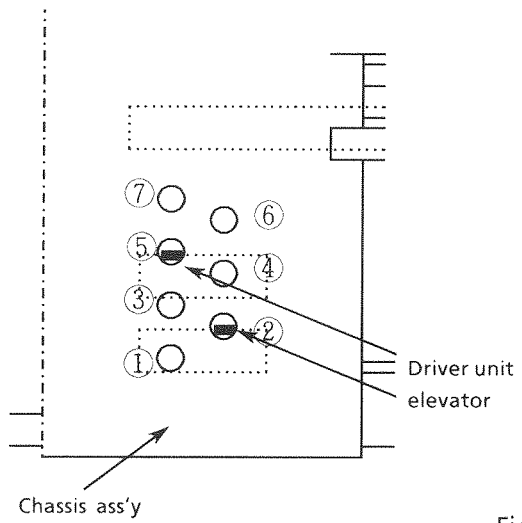
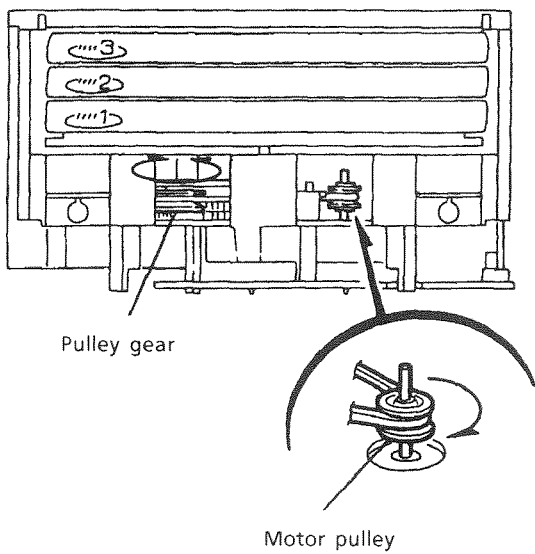

Fig. 33
Fig. 34
- [NOTE] Set the elevator in correct position (Fig. 33) by rotating the pulley gear with finger if it is not positioned correctly (Fig. 34).
12. Rotate the motor pulley clockwise with finger until the lifter unit's stopper is lowered from ⑧ hole located on the CD tray ass'y. (See Fig. 34.)